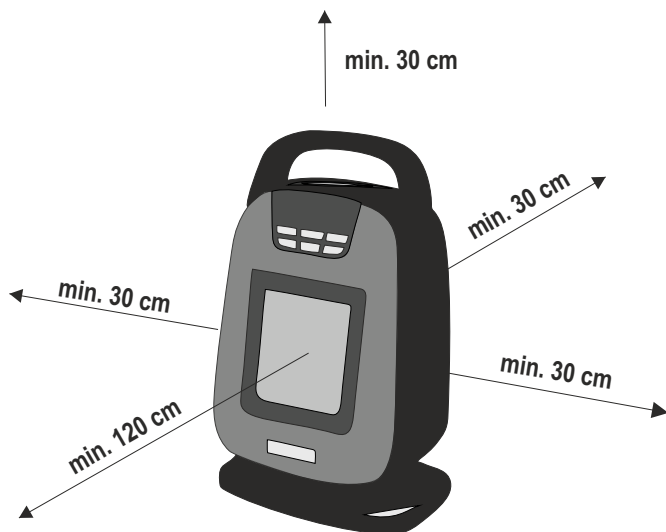

figure 2. • Abbildung 2 • 2. ábra • 2. obraz • figura 2. • 2. skica • 2. skica • 2. obrázek • rys. 2. • 2. slika
2. Never locate the unit directly in corners and observe the minimum mounting distances indicated in Figure 2. Always observe the health and safety regulations valid in the country of use.
3. Set the appliance on a stable and horizontal surface. The free flow of warm air must be ensured for proper operation, therefore, please note the minimum installation distances indicated in Figure 2.
4. Make sure, that the unit's mode selector (3) is in OFF "0" position!